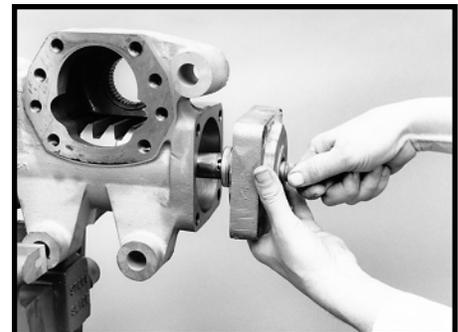

Figure 135
29. Maintain pressure on the valve end of the valve housing (8) to insure continued engagement of the drive lugs and thrust bearing package. SEE FIGURE 135. While maintaining pressure, rotate the valve housing to align the poppet adjusting screw (3) with the poppet (32) in the rack piston (29). Continue pressure, and rotate the input shaft to bring the valve housing into contact with the gear housing face.